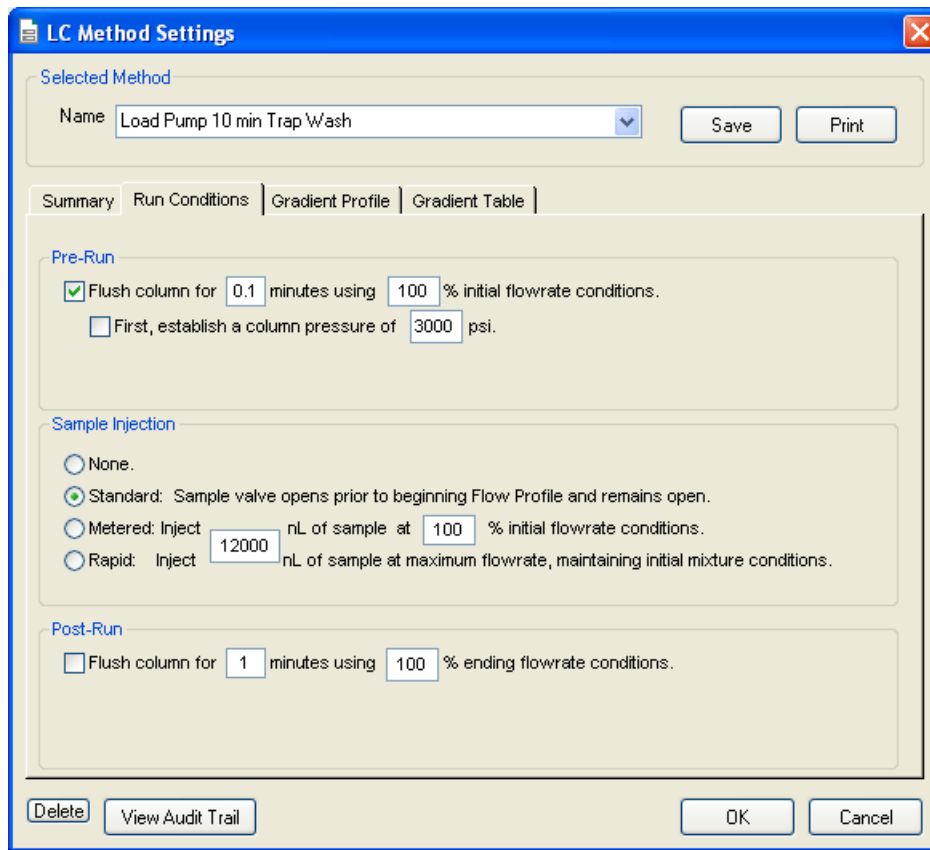

Figure 2-15 LC Method Settings dialog—Run Conditions tab
- On the **Run Conditions** tab, specify conditions as shown in Figure 2-15.